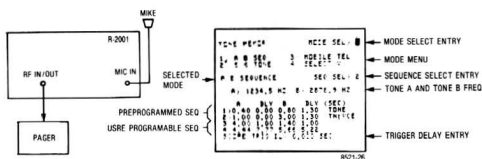

Figure 4-9. Test Setup for Two-Tone Pager and Alert Functions with CRT Display
- Test two-tone pager decode and alert function, and demonstrate simultaneous modulation (Figure 4-9).